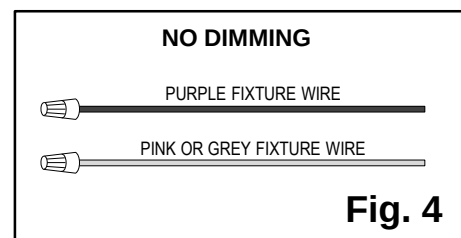

Fig. 4
10. If you will not be using a dimmer, cap off the **purple** and **grey/pink fixture wires** individually with a wire nut (**Fig. 4**).